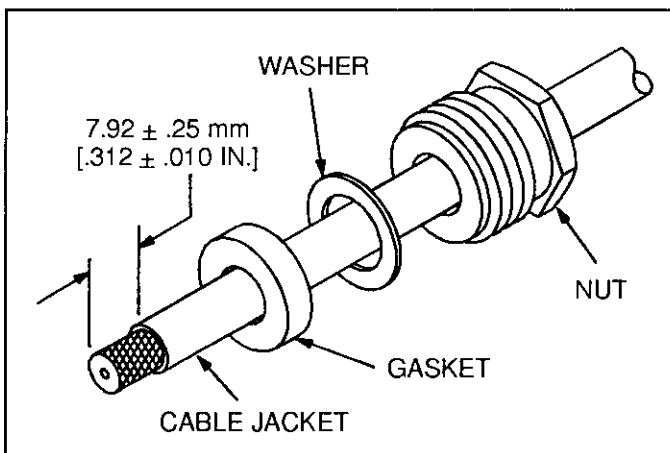

Fig. 2
1. Slide nut, washer, and gasket over cable end; then strip outer cable jacket using the recommended strip-length dimension in Figure 2.